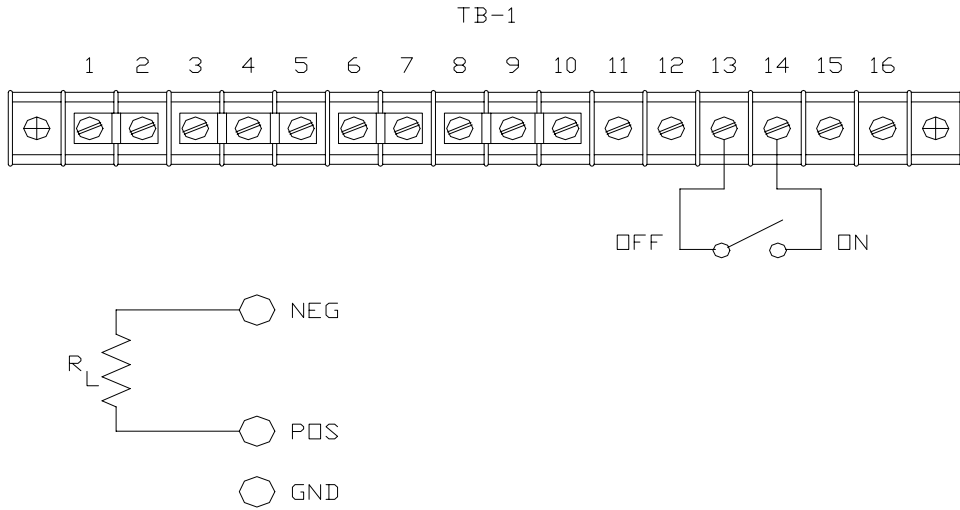

Figure 3-8
- a. Remote on/off by contact closure. Output is on when contacts are closed. See Figure 3-8 for connection requirements.